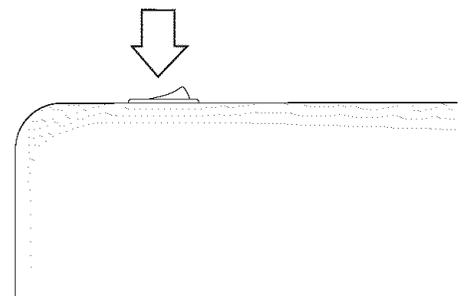

Fig. 3
The interior oven light will automatically turn **ON** when the oven door is opened. Press the Oven Light Switch located on the upper left control panel to turn the interior oven light **ON** and **OFF** whenever the oven door is closed (Fig.3).
3. Firmly grasp both sides of oven door along the door sides (Do not use the oven door handle - See Fig. 3).
1. Firmly grasp both sides of oven door along the door sides (Do not use the oven door handle - See Fig. 3).